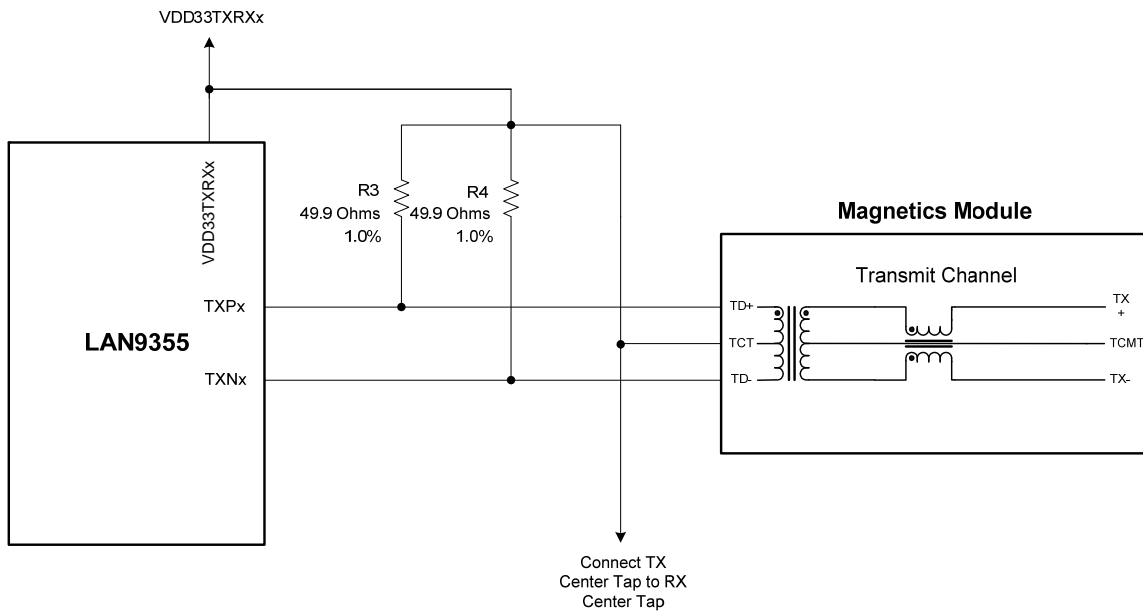

Figure 10 – Transmit Channel Connections and Terminations
3. For Port A, Transmit Channel connection and termination details, refer to Figure 10.
3. For Port B, Transmit Channel connection and termination details, refer to Figure 10.